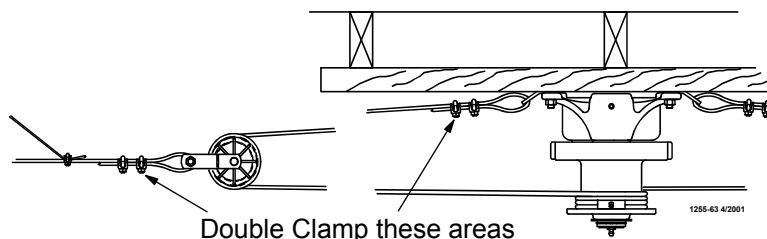

Figure 9. Double back arrangement for feed lines over 350' [107 m]
3. Extend the 3/16" [5 mm] Main Winch Cable the full length of the feeder line. Attach the cable temporarily to the ceiling with nails, staples, or some type of fasteners. **Figure 9** shows a double back arrangement for feed lines over 350' [107 m].